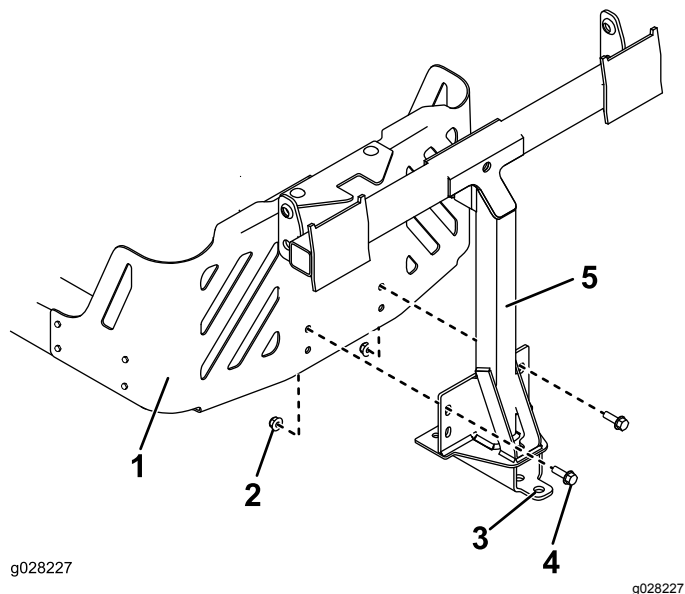

Figure 11
2. Install the pivot frame to the machine frame as shown in Figure 11. Secure the pivot frame to the machine frame using 2 bolts (5/16 x 1 inch) and 2 locknuts (5/16 inch).